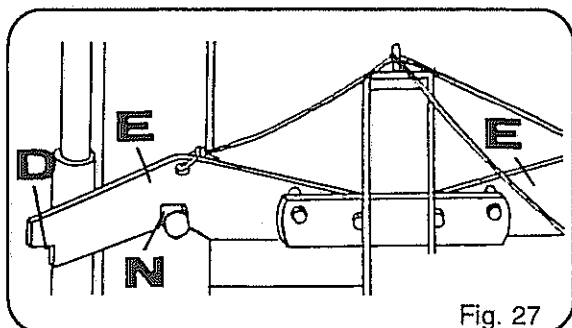

Fig. 27
- Set catch as shown in fig. 27. Ensure correct locking (see warning symbol on Page 21, pos. I).